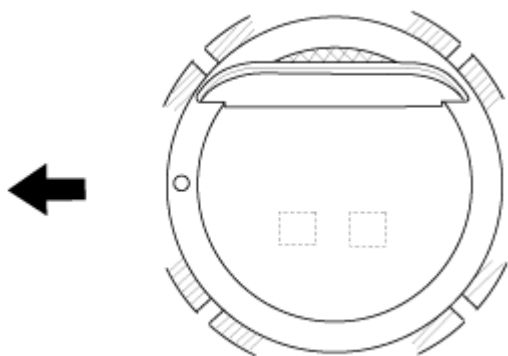

Fig. 30: Positioning Piston Rings
3. Position the piston rings so that the ring ends are as shown in **Fig. 30**.